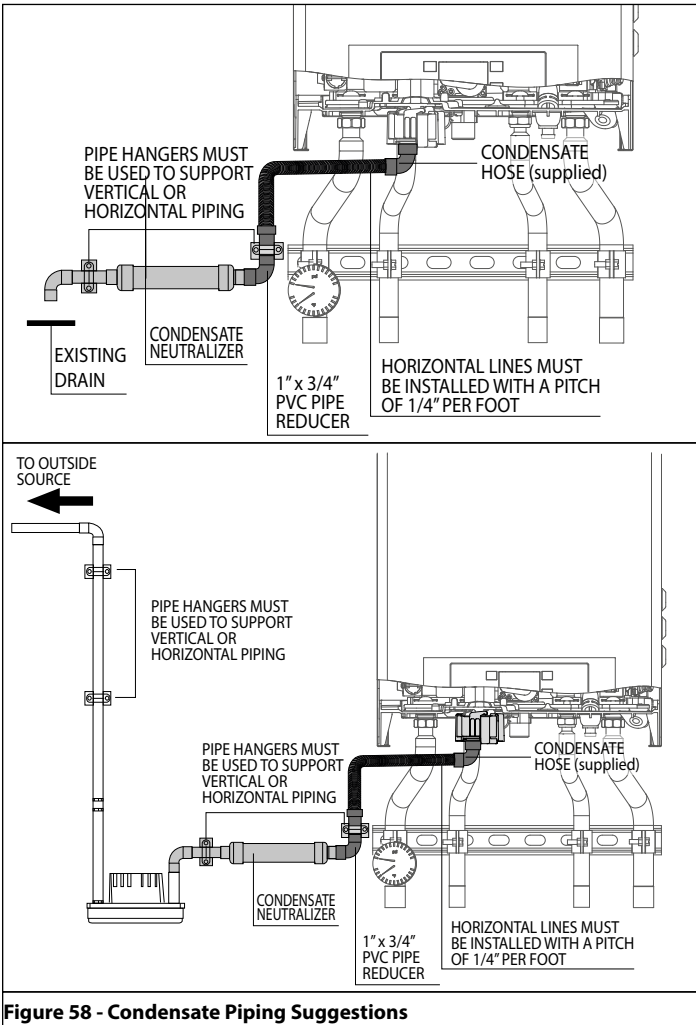

Figure 58 - Condensate Piping Suggestions
6. Local building codes may require an in-line neutralizer to be installed (not included) to treat the condensate. See Figure 58. If required by local authorities, a condensate filter of lime crystals, marble, or phosphate chips will neutralize slightly acidic condensate. Follow all the installation instructions included with the neutralizer. If a neutralizer is installed, periodic replacement of the limestone (or neutralizing agent) will be required. The rate of depletion of the limestone varies with usage of the boiler. During the first year of boiler operation, check the neutralizer every few months for depletion.